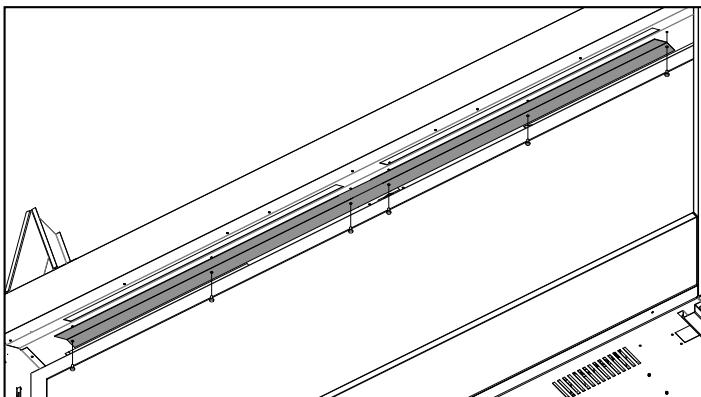
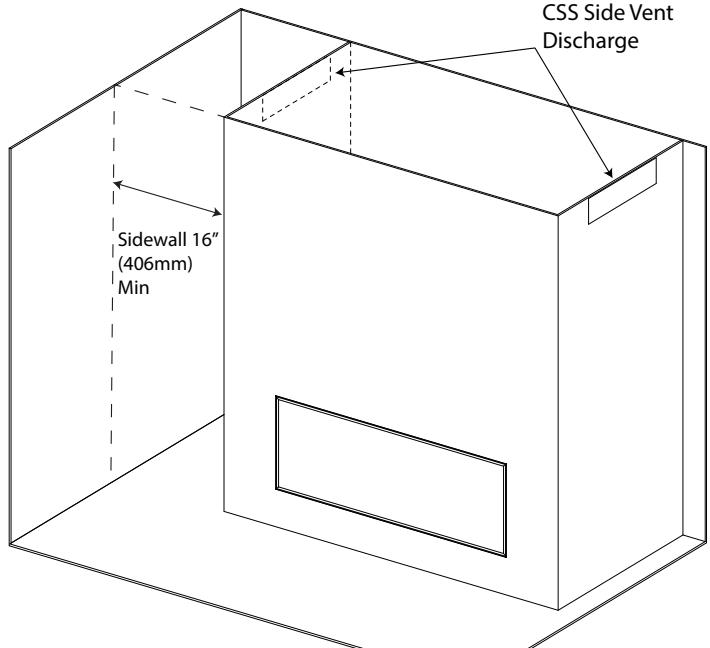

Figure 24: CSS cover removal
Figure 30: CSS Side Vent
5. Next, remove and **discard** the CSS cover on the inner top of the cabinet. It is attached with Torx T20 screws. (see Figure 24).
The framing can also be constructed in a way that provides two side vents as shown in Figure 30. The size of the side vents must provide a minimum area equal to the area provided by the front CSS discharge in Figure 24 (i.e. 2in x 77in = 154 in²).